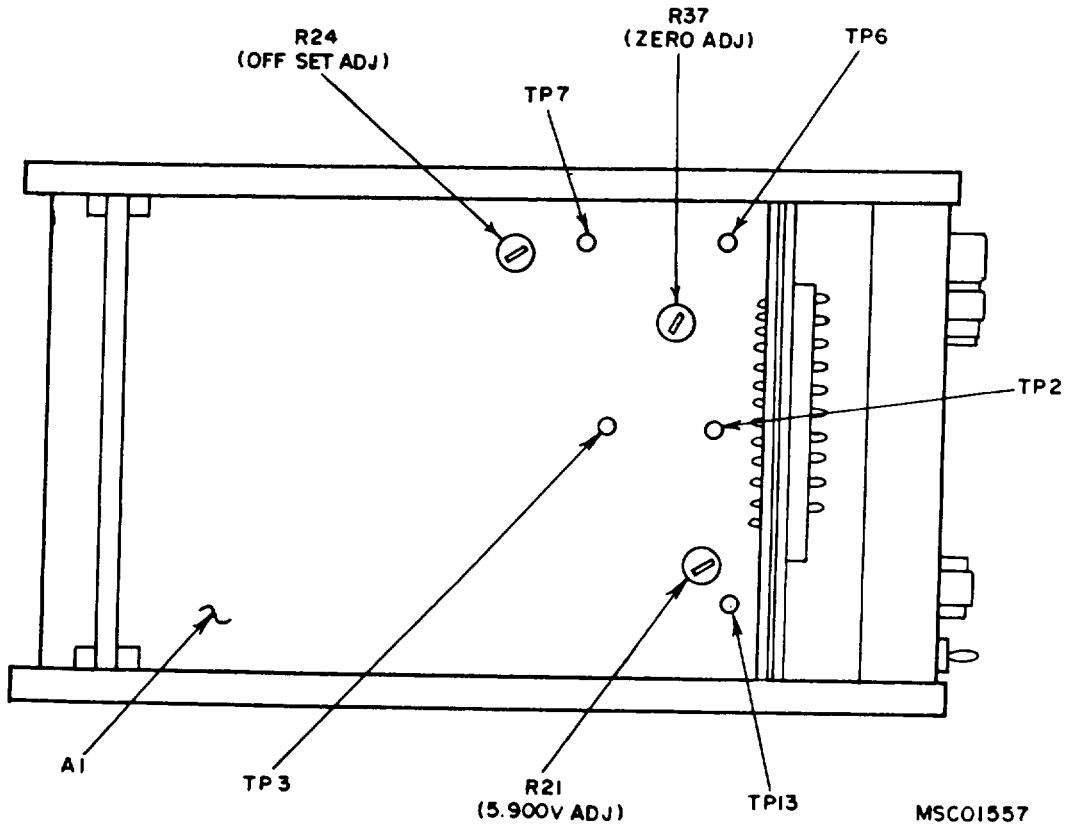

Figure 2. Calibrator A1 circuit board - component location.
(2) Return power meter OPERATE/CALIBRATE switch A2S1 to OPERATE if set in 8a(2)(d) above.
(3) Connect the digital voltmeter positive lead to TP13 (fig. 2) and the negative lead to TI chassis, using adapters and cable (B1, B2, and B5).
(4) Turn TI POWER (mW) switch and power meter RANGE switch to 3 mW.
(5) Set TI ZERO/TEST switch to ZERO.
(6) Adjust TI ZERO control to midrange.
(7) Adjust A1R21 (5.900 V ADJ) (fig. 2) for a digital voltmeter indication of 5.900 V dc (R).
(8) Connect digital voltmeter positive lead to TP2 (fig. 2) and the negative lead to TP3 (fig. 2), using adapters and cable (B1, B2, and B5).
(9) Adjust A1R37 (ZERO ADJ) (fig. 2) for a digital voltmeter indication of 0.0000 V de (R).
(10) Connect digital voltmeter positive lead to TP7 (fig. 2) and the negative lead to TP6 (fig. 2), using adapters and cable (B1, B2, and B5).
(11) Adjust A1R24 (OFFSET ADJ) (fig. 2) for a digital voltmeter indication of 0.0000 V dc (R).